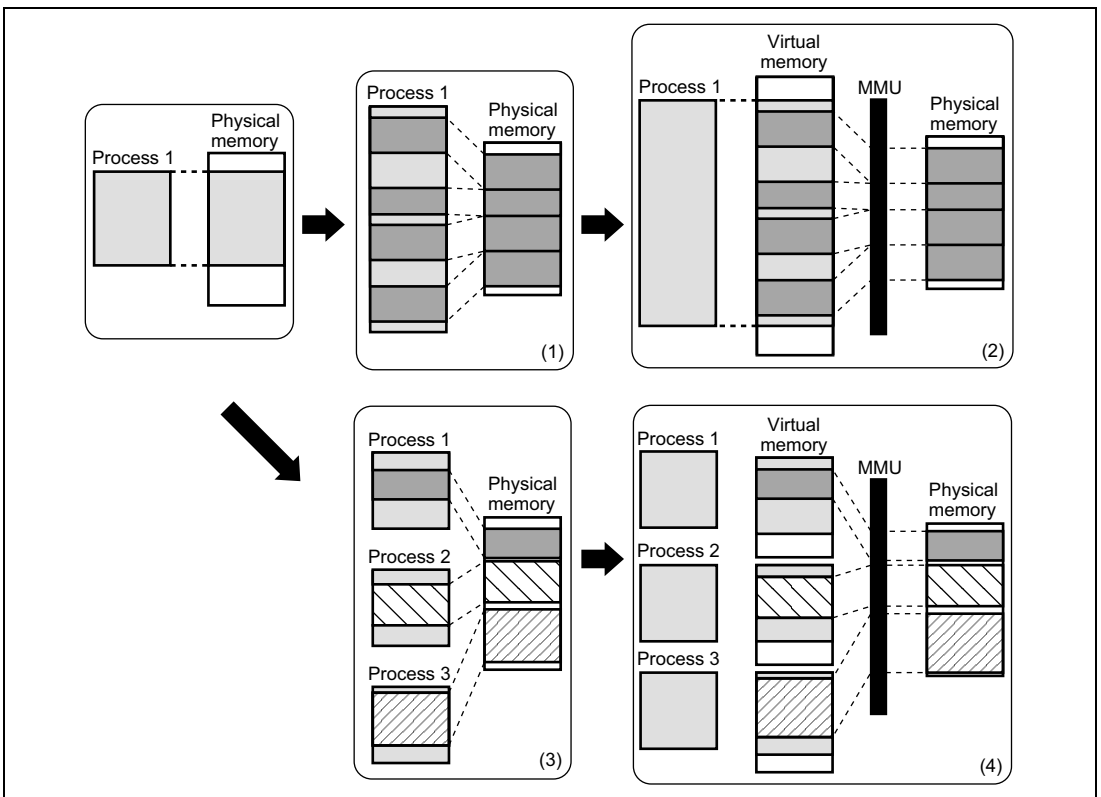

Figure 3.1 MMU Functions
The MMU is a feature designed to make efficient use of physical memory. As shown in figure 3.1, if a process is smaller in size than the physical memory, the entire process can be mapped onto physical memory. However, if the process increases in size to the extent that it no longer fits into physical memory, it becomes necessary to partition the process and to map those parts requiring execution onto memory as occasion demands (figure 3.1 (1)). Having the process itself consider this mapping onto physical memory would impose a large burden on the process. To lighten this burden, the idea of virtual memory was born as a means of performing en bloc mapping onto physical memory (figure 3.1 (2)). In a virtual memory system, substantially more virtual memory than physical memory is provided, and the process is mapped onto this virtual memory. Thus a process only has to consider operation in virtual memory. Mapping from virtual memory to physical memory is handled by the MMU. The MMU is normally controlled by the operating system, switching physical memory to allow the virtual memory required by a process to be mapped onto physical memory in a smooth fashion. Switching of physical memory is performed via secondary storage, etc.
The virtual memory system that came into being in this way is particularly effective in a time-sharing system (TSS) in which a number of processes are running simultaneously (figure 3.1 (3)). If processes running in a TSS had to take mapping onto virtual memory into consideration while running, it would not be possible to increase efficiency. Virtual memory is thus used to reduce this load on the individual processes and so improve efficiency (figure 3.1 (4)). In the virtual memory system, virtual memory is allocated to each process. The task of the MMU is to perform efficient mapping of these virtual memory areas onto physical memory. It also has a memory protection feature that prevents one process from inadvertently accessing another process's physical memory.